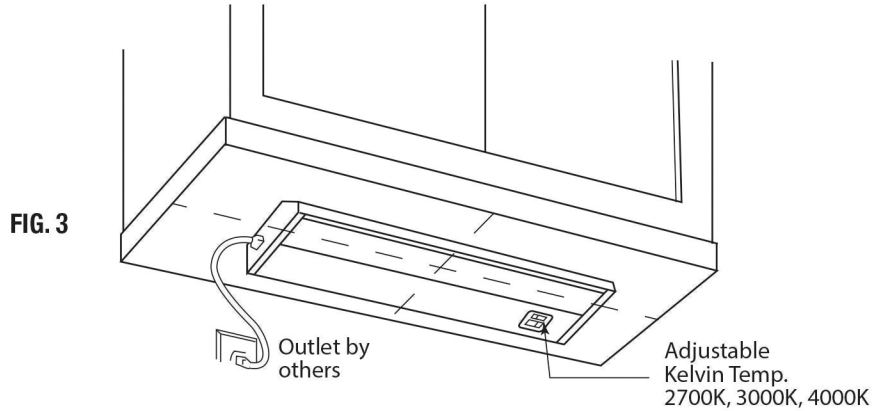

FIG. 3
3. Mount fixture to under cabinet or where you plan to locate fixture. Plug power cord into wall outlet. (FIG. 3).